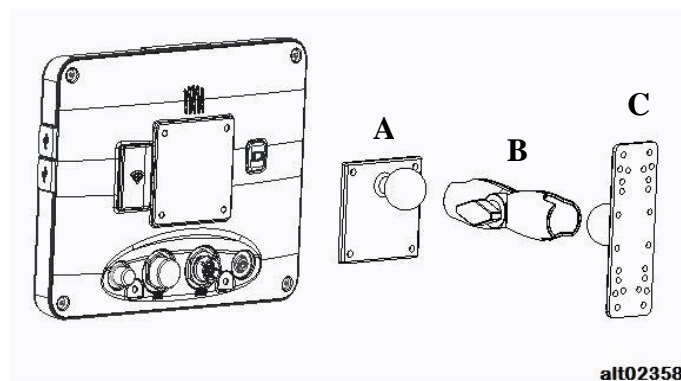

Figure 2. Display bracket installation
2. Install display mounting base (**A**) to back side of display as shown in Figure 2. using provided pan head screws with split lock washers from hardware kit.